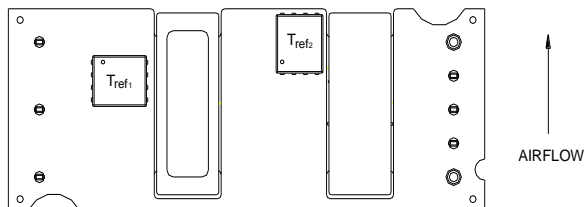
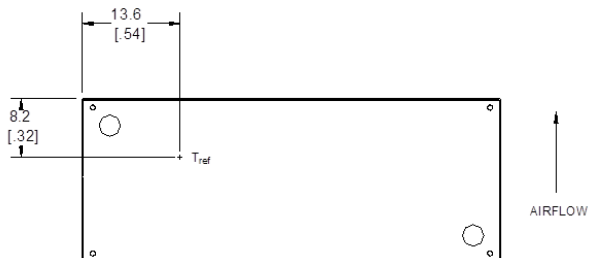

Figure 13. T_{ref} Temperature Measurement Locations for Open Frame Module.
Figure 14. T_{ref} Temperature Measurement Location for Module with Heatplate.
To provide protection under certain fault conditions, the unit is equipped with a thermal shutdown circuit. The unit will shutdown if the thermal reference point, T_{ref} , exceeds 135° C (Figure 13, typical or 120° C (Figure 14, typical)), but the thermal shutdown is not intended as a guarantee that the unit will survive temperatures beyond its rating. The module will automatically restart upon cool-down to a safe temperature.
The thermal reference points, T_{ref1} and T_{ref2} , used in the specifications for open frame modules are shown in Figure 13. For reliable operation these temperatures should not exceed 122° and 123 °C respectively.
The thermal reference point, T_{ref} , used in the specifications for modules with heatplate is shown in Figure 14. For reliable operation this temperature should not exceed 100 °C.